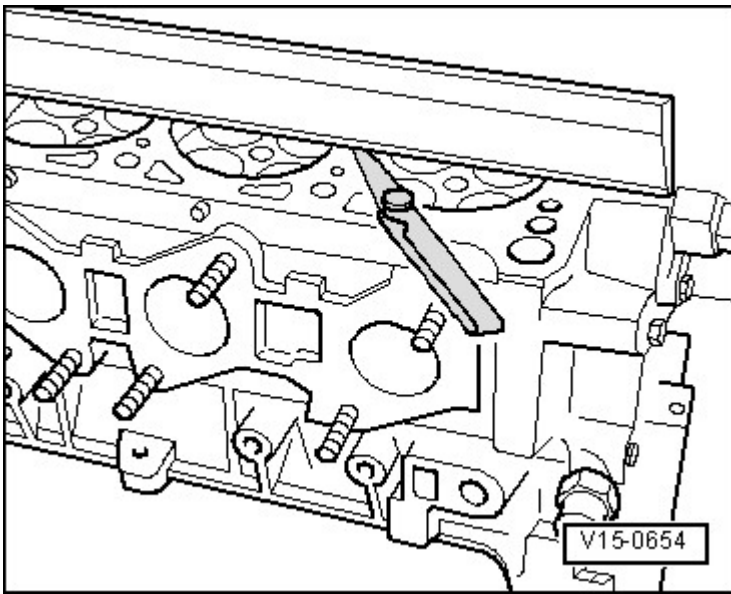

Fig. 16: Checking Cylinder Head For Distortion
- Check for distortion, refer to **Fig. 16**